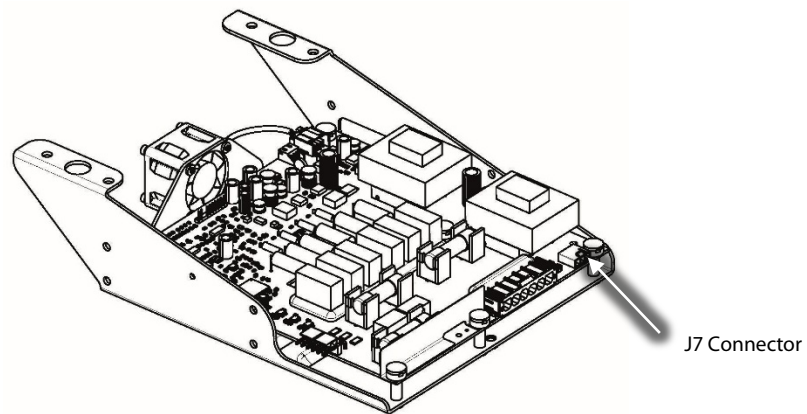

Figure 14 – Soft Start J7 Connector
9. The Open Frame DC-DC Converter no longer uses the 15VAC trigger signal from the Soft Start. Disconnect the cable from the Soft Start (J7). Refer to Figure 14 (Soft Start J7 Connector).